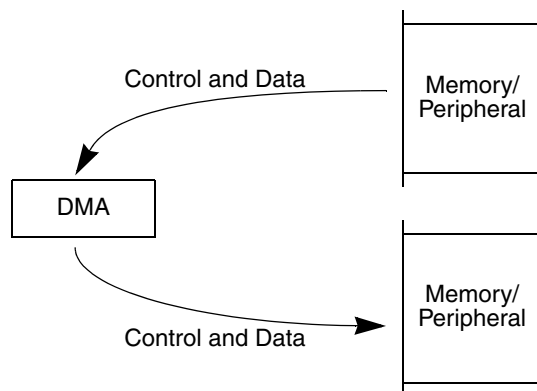

**Figure 14-2. Dual-Address Transfer**
- Dual-address transfers—A dual-address transfer consists of a read followed by a write and is initiated by an internal request using the START bit or by asserting  $\overline{DREQn}$ . Two types of transfer can occur: a read from a source device or a write to a destination device. See Figure 14-2 for more information.